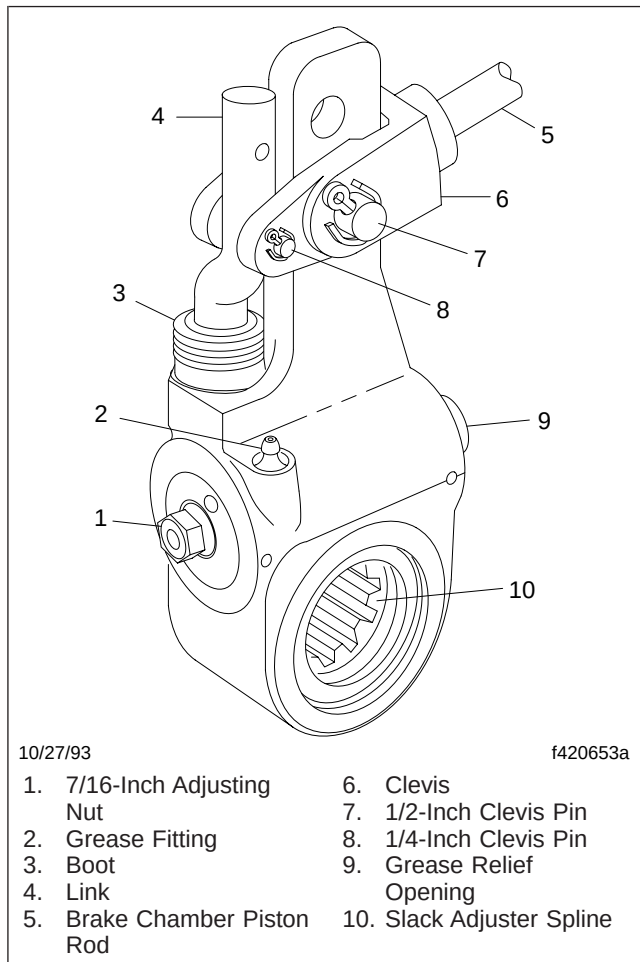

Fig. 6, Gunit Automatic Slack Adjuster
1. Lubricate the slack adjuster until grease flows from the grease relief opening. See Fig. 6. For temperatures to -40°F (-40°C), use Lubriplate Aero; for temperatures to -20°F (-29°C), use Texaco Multifak EP-2 or MobilGrease No. 77.
3. Inspect the slack adjuster boot for cuts or tears. If the boot is damaged, replace it as follows (see Fig. 6).